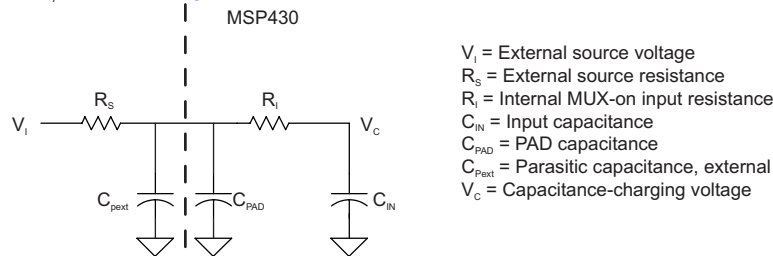

Figure 5-16. eCOMP Input Circuit
(1) For details on the eCOMP C_{IN} model, see Figure 5-16.
(1) For details on the eCOMP C_{IN}, model, see Figure 5-16.